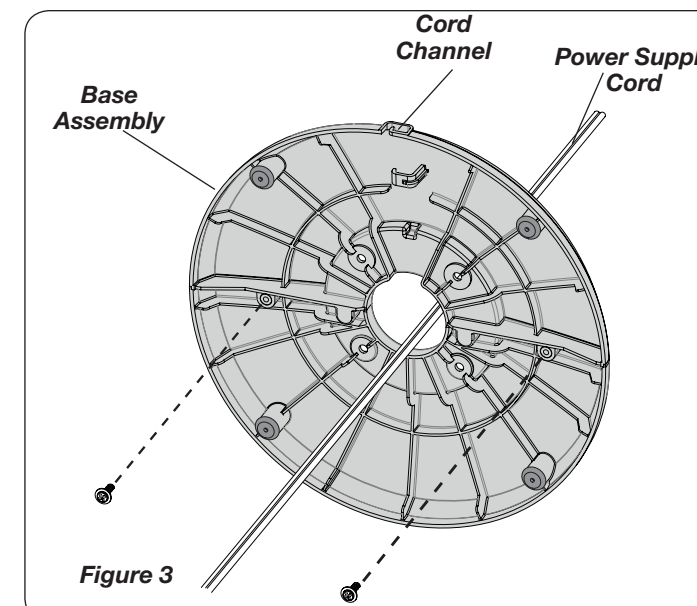

Figure 3
- Secure the Base halves with (2) M4 X 13mm Screws. Thread the **Power Supply Cord** through the large hole in the **Base Assembly**. **NOTE: The Cord Channel on the bottom of the Base should be towards the back of the Heater.** (Figure 3)